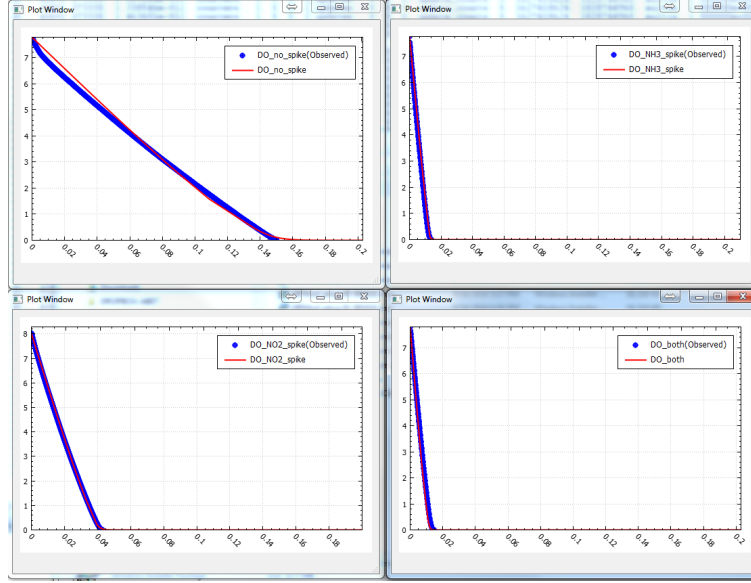

Figure 5.7: Observed and predicted DO variation in all four experiments
14. **Checking the model vs. observed agreement:** Right-click on **Project Explorer**→**Inverse Modeling**→**Observations**→*DO_nospike* and choose **Plot modeled data**. A graph will appear that will show observed data and the model prediction based on the estimated parameters. Do the same for other observation data (Figure 5.7).